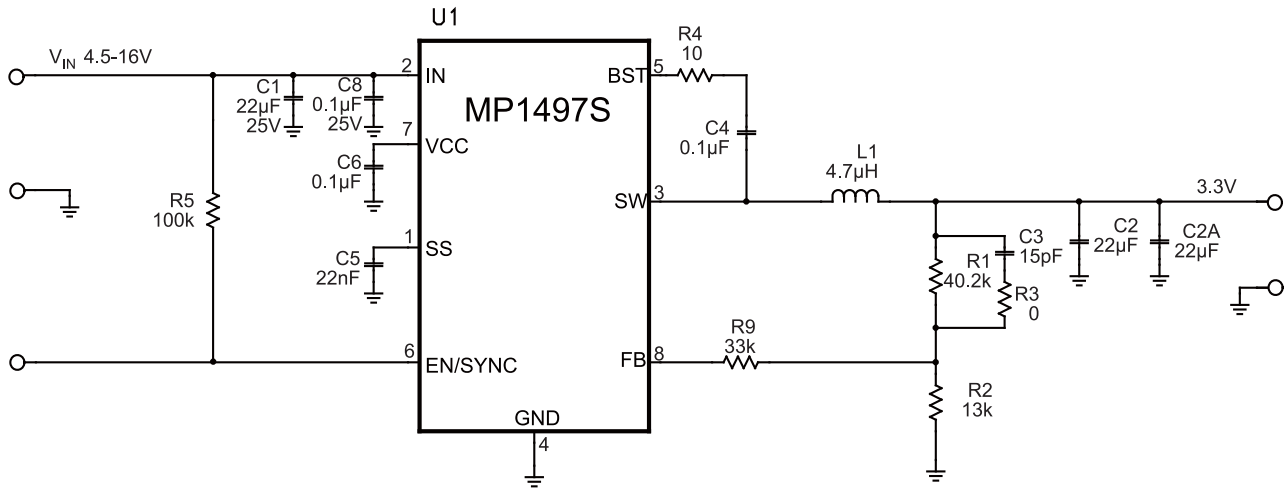

Figure 6: 12V_{IN}, 3.3V/3A
- 9) The recommended layout is based on the Figure 6 Typical Application circuit on the next page.